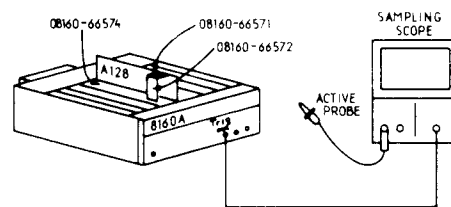

Figure 5-13
25. Put A128 on extender board 08160-66573, and connect extender board 08160-66572 as shown in Figure 5-13.